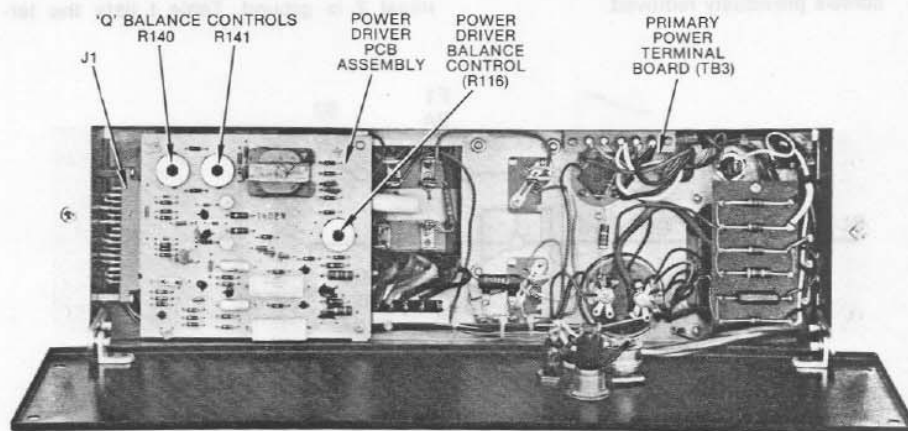

Figure 1. Front View with Hinged Panel Open
1. Remove four screws securing front panel. Open and lower panel as shown in Figure 1.
6. Adjust R116 on Power Driver PCB (see Figures 1 and 7) until minimum distortion is observed on distortion-measuring instrument.
Output "Q" Balance Controls R140 and R141 on Power Driver PCB (see Figure 1) balance the bias current of power transistors Q1, Q2, Q3 and Q4. Inadequate adjustment of these controls may result in distortion and excessive current drain from one or more power transistors. If adjustment is indicated (such as replacement of one or more power transistors), the following procedure is recommended:
3. Turn Output "Q" Balance Controls R140 and R141 fully counterclockwise (see Figure 1).